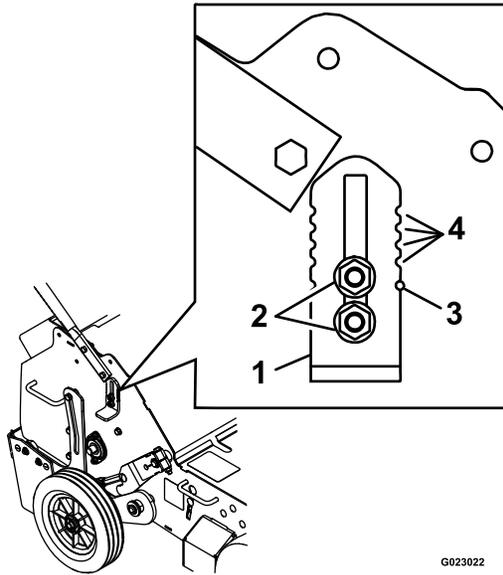

Figure 18
3. Loosen the nuts securing the wheel stop on the right side of the machine (Figure 18).
6. Repeat steps 3 through 5 for the wheel stop on the left side of the machine. Use the visual indicator notches in the wheel stop and indicator holes in the frame to set the wheel stops to the same height on each side (see Figure 18).